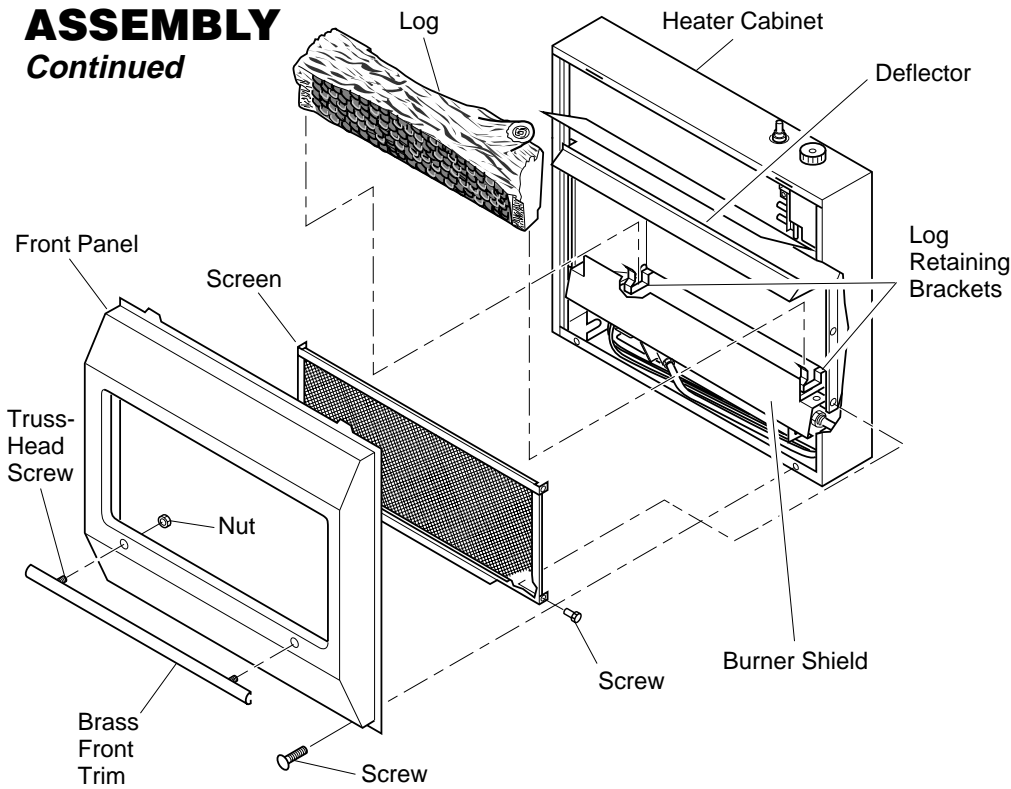

Figure 4 - Assembling Heater
4. Gently slide log between log retaining brackets on deflector assembly (see Figure 4, page 4). The log should fit firmly against bottom of log retaining brackets.
3. Line up screws with holes in front panel (see Figure 4). Insert screws in holes. Attach nuts from inside of front panel. Tighten with wrench.